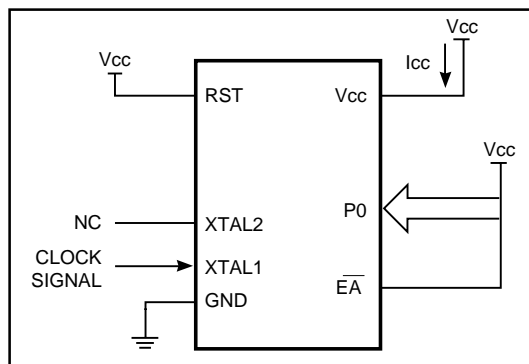

Figure 28. Active Mode
1. See Figures 28, 29, 30, and 31 for  $I_{CC}$  test conditions.